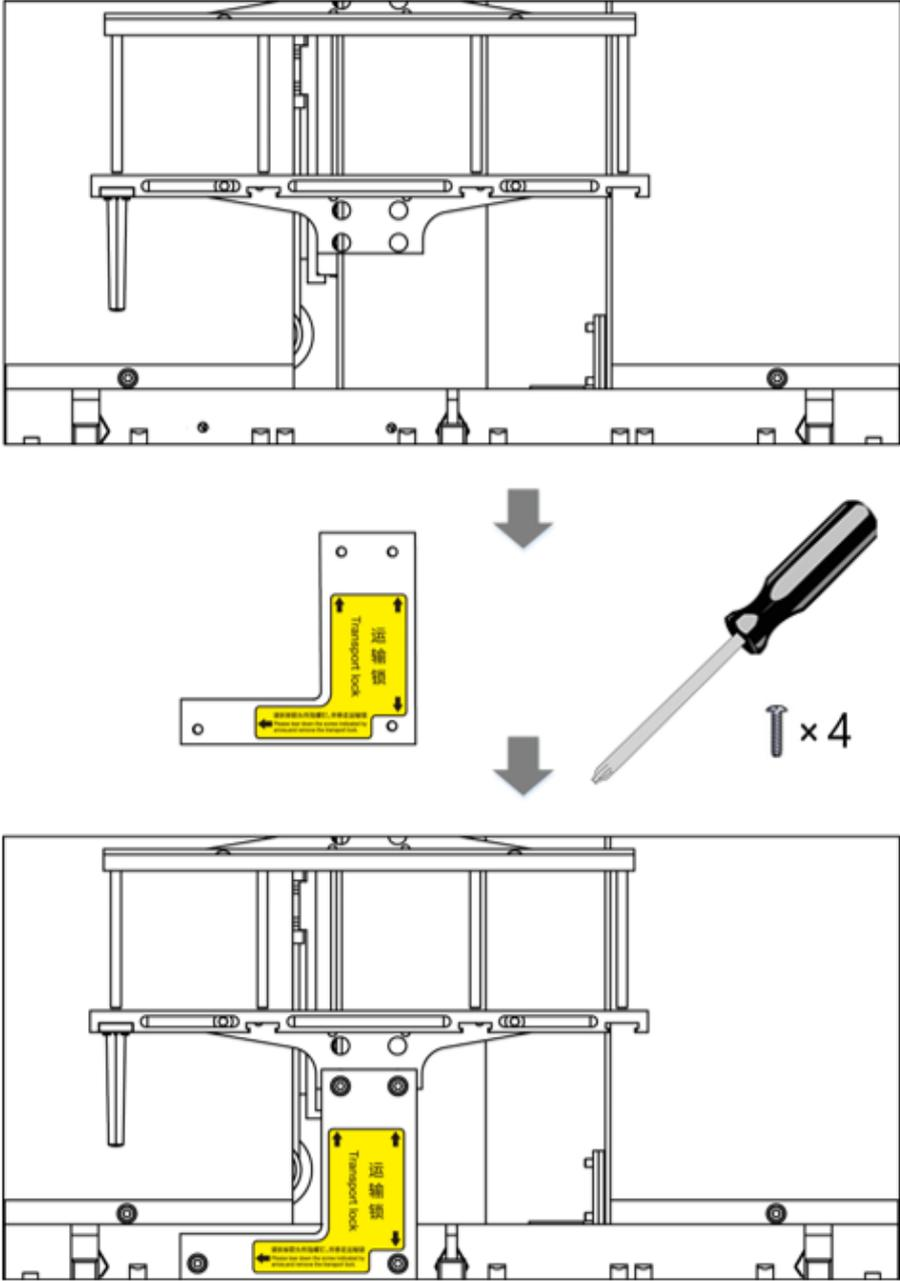

Figure 3-2 Fix Transport Lock
- 3) Fix the transport lock at the location where it should be. Specific operation is shown in the figure 3-2.